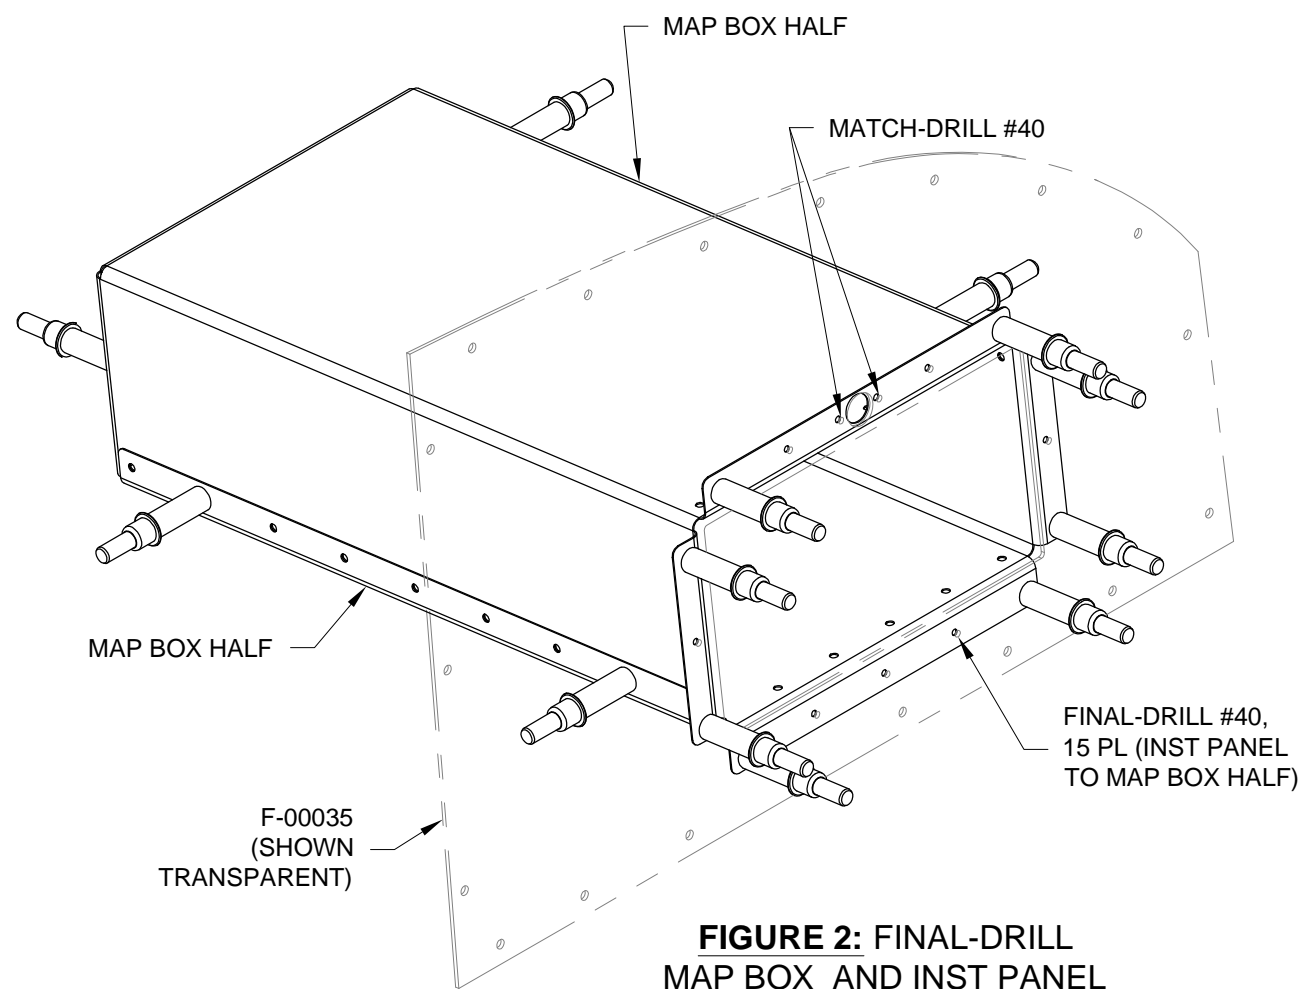

FIGURE 2: FINAL-DRILL MAP BOX AND INST PANEL
Cleco the second map box half to the SkyView inst panel right mapbox and the first map box half as shown in Figure 2.
Step 5: Final-Drill and match-drill #40 all 3/32 diameter holes in the F-00035 SkyView Inst Panel Right Mapbox and the two Map Box Halves. See Figure 2.
Use a step-drill to enlarge the 3/32 diameter hole in the middle of the top map box half to match the 1/2 diameter hole in the SkyView inst panel right mapbox. See Figure 2.
Step 6: Remove the F-00035 SkyView Inst Panel Right Mapbox leaving the two Map Box Halves clecoed together as shown in Figure 2.